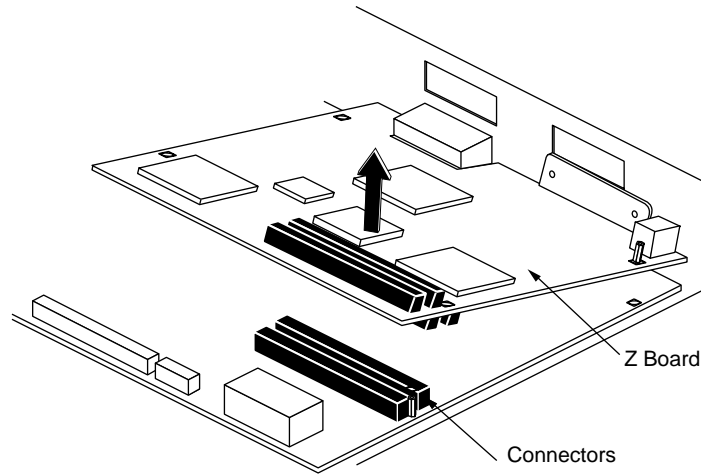

Figure 8-19 Disconnecting the Z Board From the System Board
10. Disconnect the Z board from the system board, by grasping the board firmly on the side close to the system disk drive and pulling up to disconnect the two connectors underneath the board. See Figure 8-19.